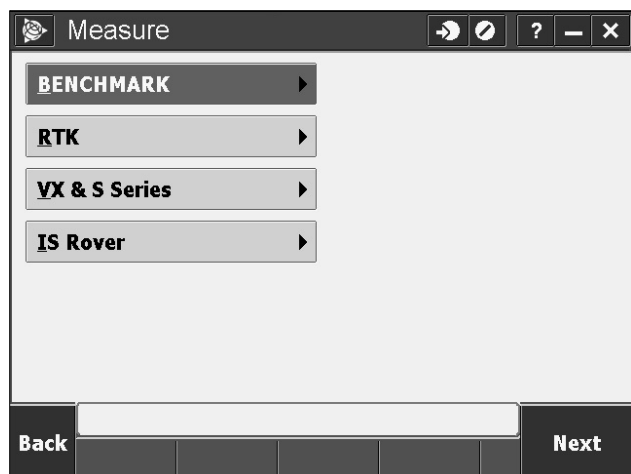

Figure 8. Measure menu.
- b. Choose VX & S series survey style (Figure 8)